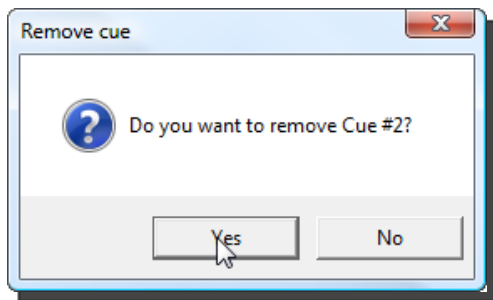

Figure 234
2. Click **Yes** in the **Remove Cue** confirmation dialog box (Figure 234).